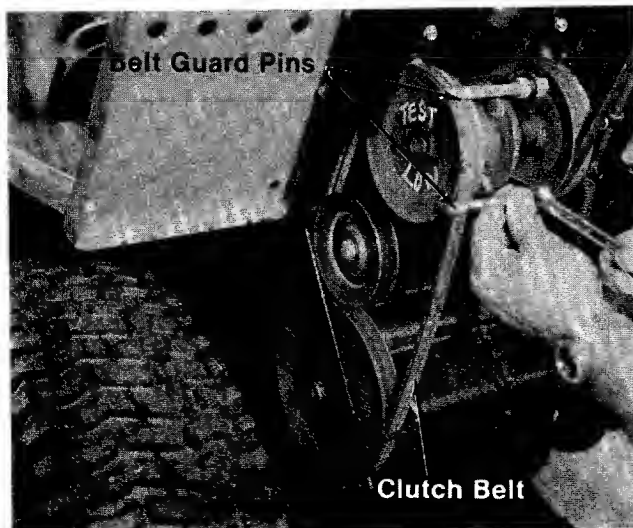

FIGURE 18.
4. Remove the two belt guard pins on the pulley assembly. See figure 18.